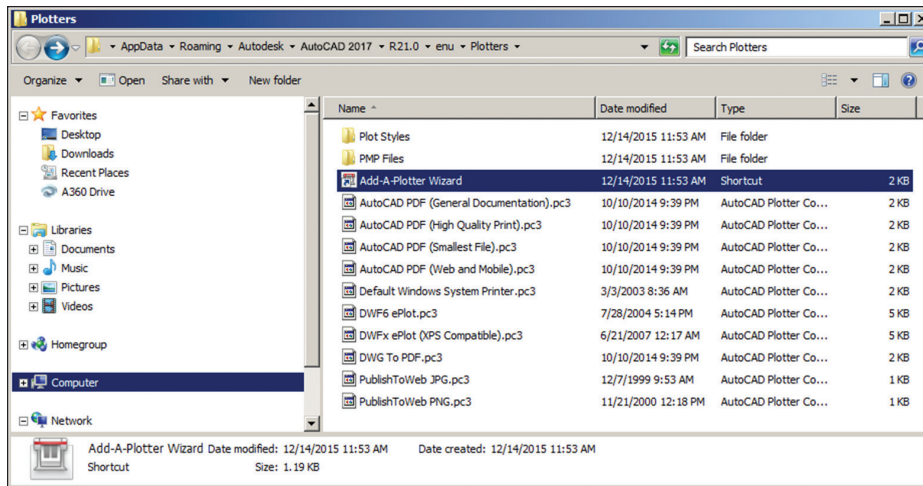

FIGURE 14.1 Explorer window showing two folders, the Add-A-Plotter Wizard, and various AutoCAD plotters
1. In a blank AutoCAD drawing, type **PLOTTERMANAGER** and press Enter. The Windows Explorer dialog box appears displaying the **Add-A-Plotter Wizard** and various AutoCAD plotters that have the **.pc3** file extension (see Figure 14.1).